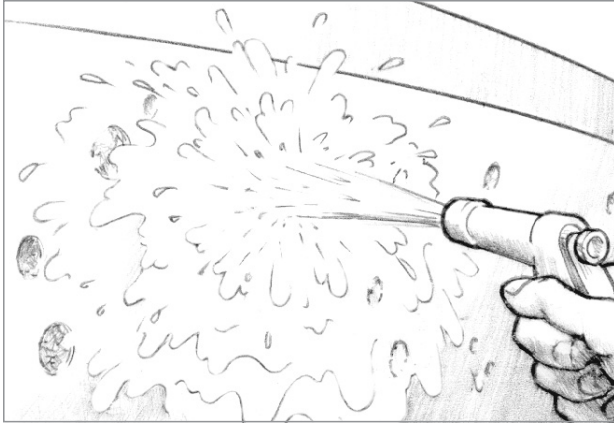

Figure 4-5 Scrub the surface with a stiff brush while flushing with fresh water to remove contaminants. Allow to dry completely.
1. Pressure wash, or scrub the surface with an abrasive pad or stiff brush while flushing with fresh water to remove contaminants (*Figure 4-5*). The brief exposure to the fresh water won't drive up the moisture content of the laminate. Wipe dry with clean paper towels. Avoid washing with solvents, unless a particular contaminant is not water soluble. If you must use solvents, apply and dry with paper towels before the solvent evaporates. Do not use rags to apply or remove solvents.